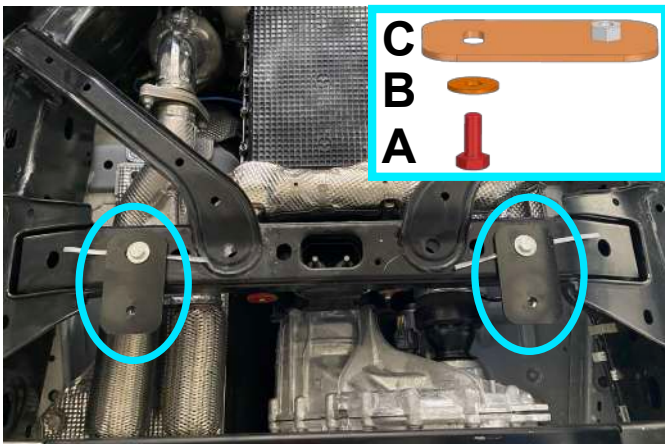

Fig. 7
6. Fix brackets (item C) to installed insert nut M10 (item D) from step 3, using bolts M10x25 (item A) and washers 10 (item B), as shown in fig.7.